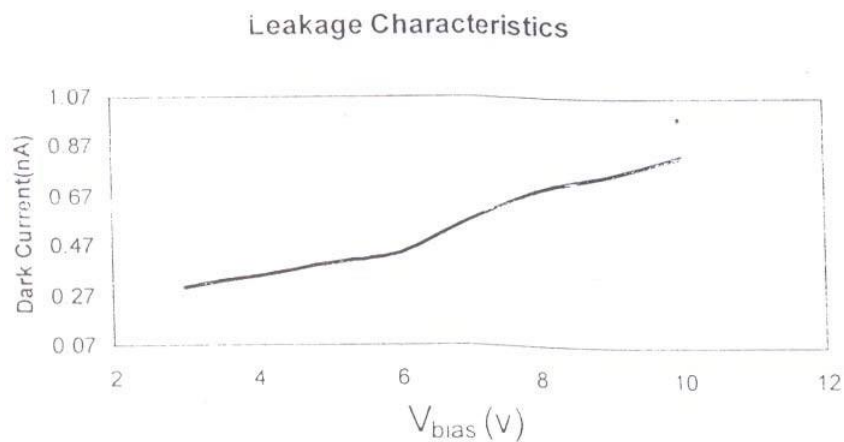

Figure 9. Voltage Vs Dark Current graph
6. Plot the graph using V_{bias} and I_{dark} and the sample graph is shown in fig.9